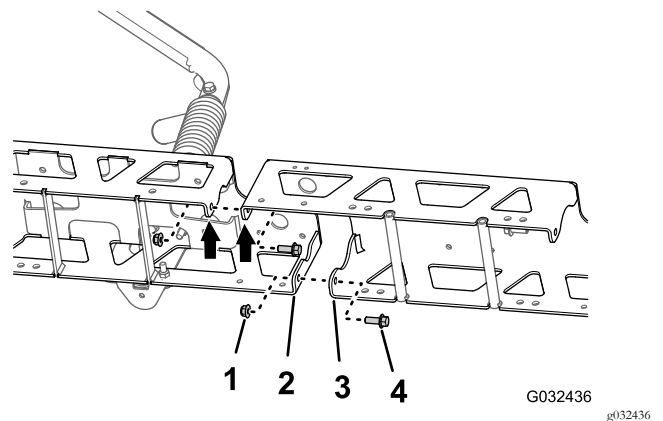

Figure 52
1. Align the holes in vertical flanges of the center-boom extension with the holes in the truss frame (Figure 52).
2. Loosely assemble the center-boom extension to the truss frame (Figure 52) with the 2 flange-head bolts (3/8 x 1 inch) and 2 flange locknuts (3/8 inch) that you removed in step 1 of Separating the Center-Spray Section Trusses (page 24).
3. Align the holes in vertical flanges of the center-boom extension with the holes in the other truss frame (Figure 52).
4. Loosely assemble the center-boom extension to the other truss frame (Figure 52) with the 2 flange-head bolts (3/8 x 1 inch) and 2 flange locknuts (3/8 inch) from the GeoLink spray system finishing kit (Figure 52).